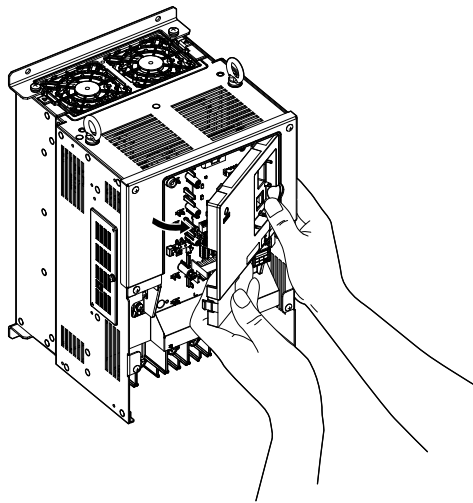

Figure 3.22 Remove the Front Cover (2A0010 to 2A0415 and 4A0058 to 4A1200)
4. Unhook the left side of the front cover then swing the left side towards you as shown in Figure 3.22 until the cover comes off.